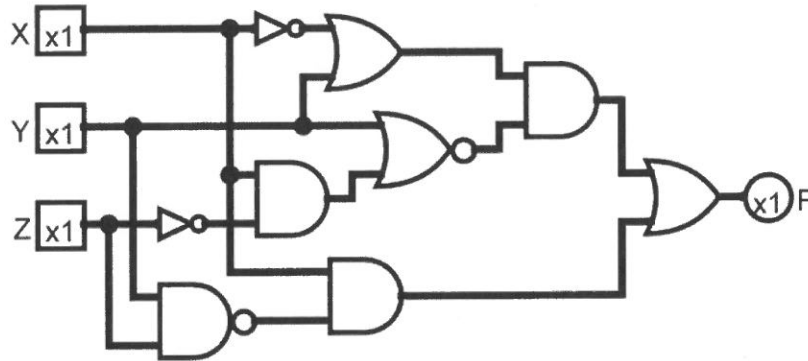

Figure 3(b)
- (b) Find the Boolean expression of F in Figure 3(b) and present the expression to the minimum using Boolean simplification only. Use only ONE IC (Integrated Circuit) of your choice to represent the simplified expression. Show working clearly.